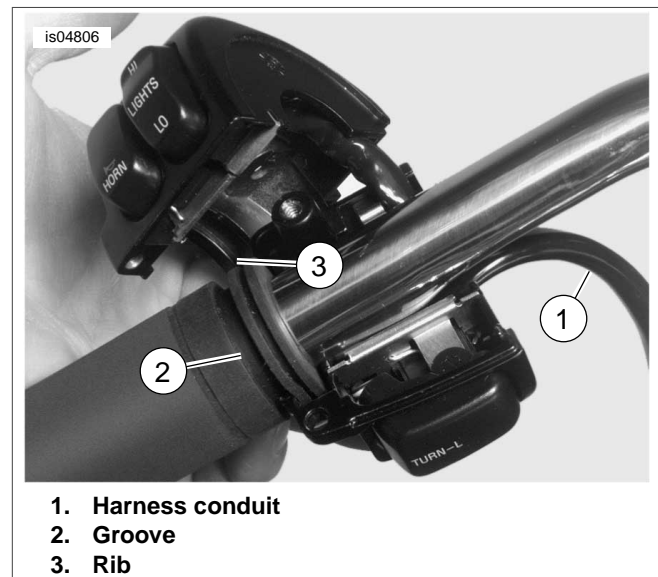

Figure 8. Install Left Handlebar Switch Housing
- See Figure 8. Position the left switch control upper and lower housings onto the handlebar. Be sure that rib on outboard side of switch housings fits in groove molded into the grip.